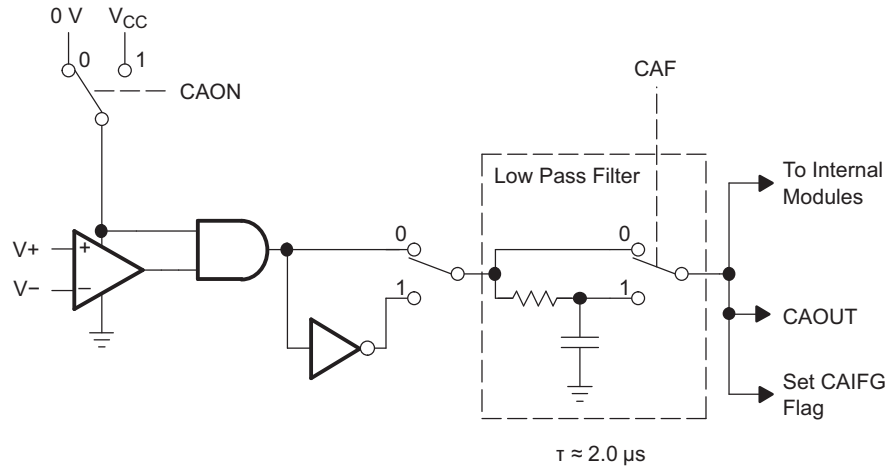

Figure 32. Comparator\_A+ Block Diagram
| t (response)           | Response time (low-to-high and high-to-low)                 | T A = 25°C, Overdrive 10 mV,Without filter: CAF = 0 (3)(see <a href="#">Figure 32</a> and <a href="#">Figure 33</a> ) | 2.2 V           | 80   | 165  | 300                 | ns   |
|                                   |                                                             | T A = 25°C, Overdrive 10 mV,Without filter: CAF = 1 (3)(see <a href="#">Figure 32</a> and <a href="#">Figure 33</a> ) | 2.2 V           | 1.4  | 1.9  | 2.8                 | μs   |